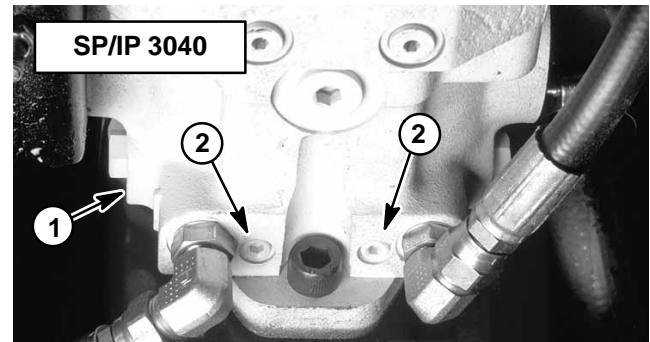

Figure 17
- A. For Sand Pro 3040 and Infield Pro 3040 machines, remove plug from one of the hydrostat charge test ports (Fig. 17). Install pressure gauge to test port.